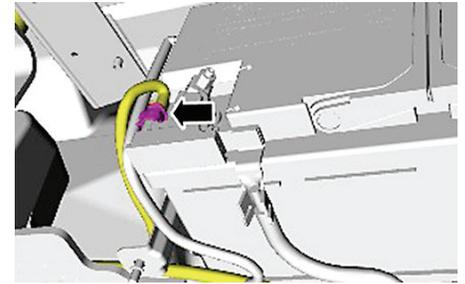

Fig. 1 Battery monitoring system module harness removal
3. Release clip and disconnect battery monitoring system module harness, **Fig. 1**.